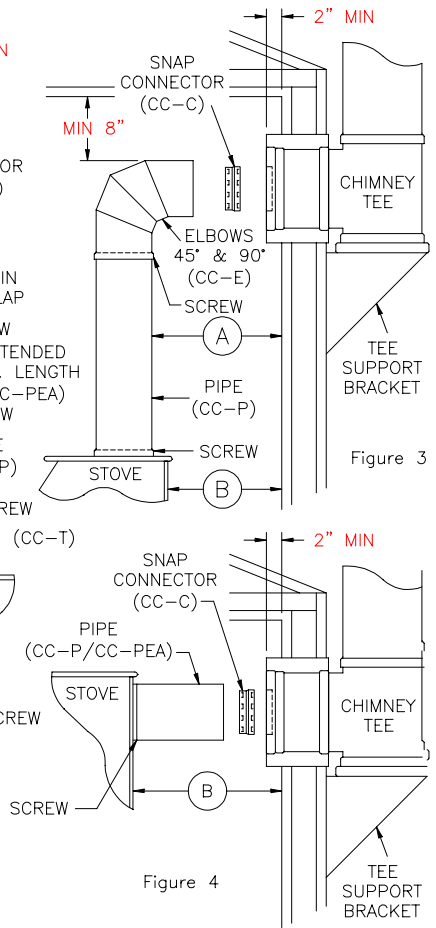

Figure 4
**BACK OPENING STOVES:** (Figure 4) Take a measurement from the center of the stove collar to the wall to determine position of the wall thimble. Snap connector into wall thimble and slide pipe over collar on stove attaching with screws.